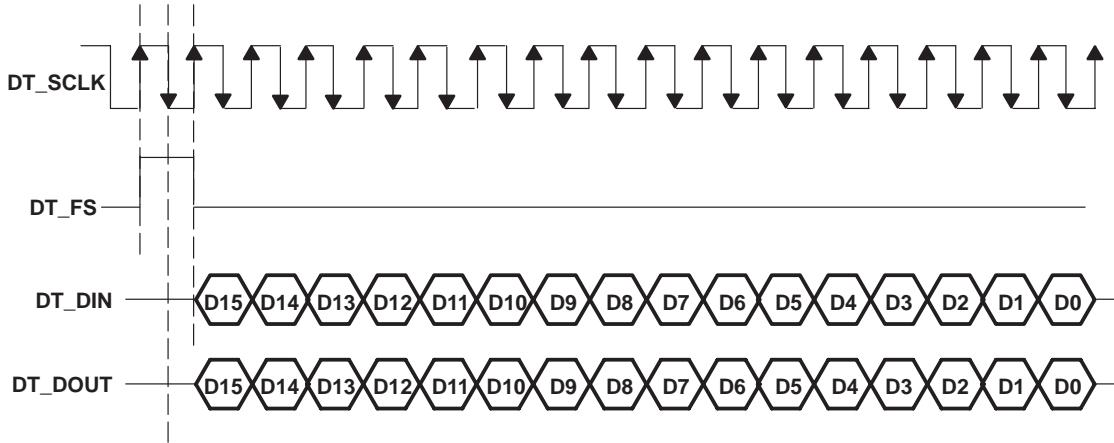

Figure 4–2. FS High Mode Primary Serial Communication Timing
There are two possible modes for serial data transfer. One mode is the FS high mode, which is selected by tying the SI\_SEL terminal to DVDD. Figure 4–2 shows the timing relationship for DT\_SCLK, DT\_FS, DT\_DOUT and DT\_DIN in a primary communication when in FS high mode. The timing sequence for this operation is as follows:
The second possible serial interface mode is the FS low mode which is selected by tying the SI\_SEL terminal to DVSS. This mode differs from the FS high mode in that the frame sync signal (FS) is active low, data transfer starts on the falling edge of DT\_FS, and DT\_FS remains low throughout the data transfer. Figure 4–3 shows the timing relationship for DT\_SCLK, DT\_FS, DT\_DOUT, and DT\_DIN in a primary communication when in FS low mode. The timing sequence for this operation is as follows: